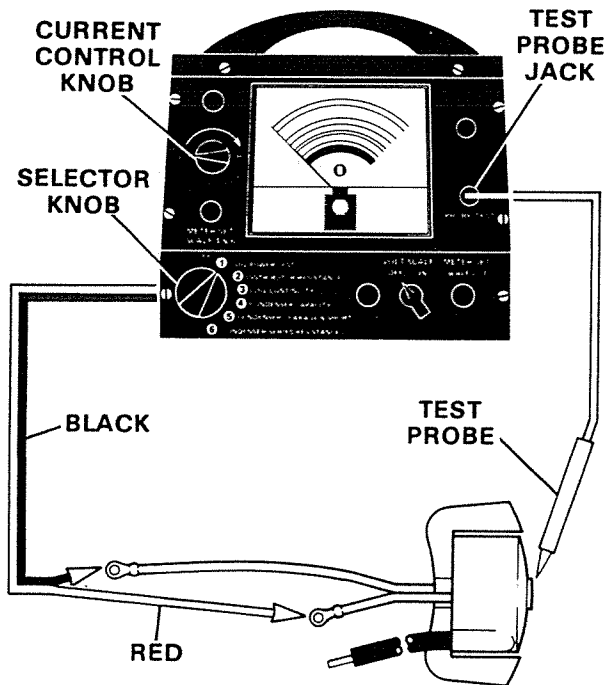

Figure 20. Testing Coil Surface Insulation.
1. Plug test probe into jack in front of analyzer. Figure 20.